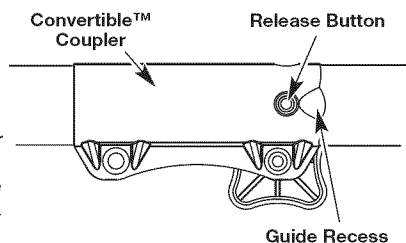

Fig. 5
NOTE: Aligning the release button with the guide recess will help installation (Fig. 5).
2. Press and hold the release button (Fig. 5).
3. While firmly holding the upper shaft housing, pull the attachment straight out of the Convertible™ coupler (Fig. 5).